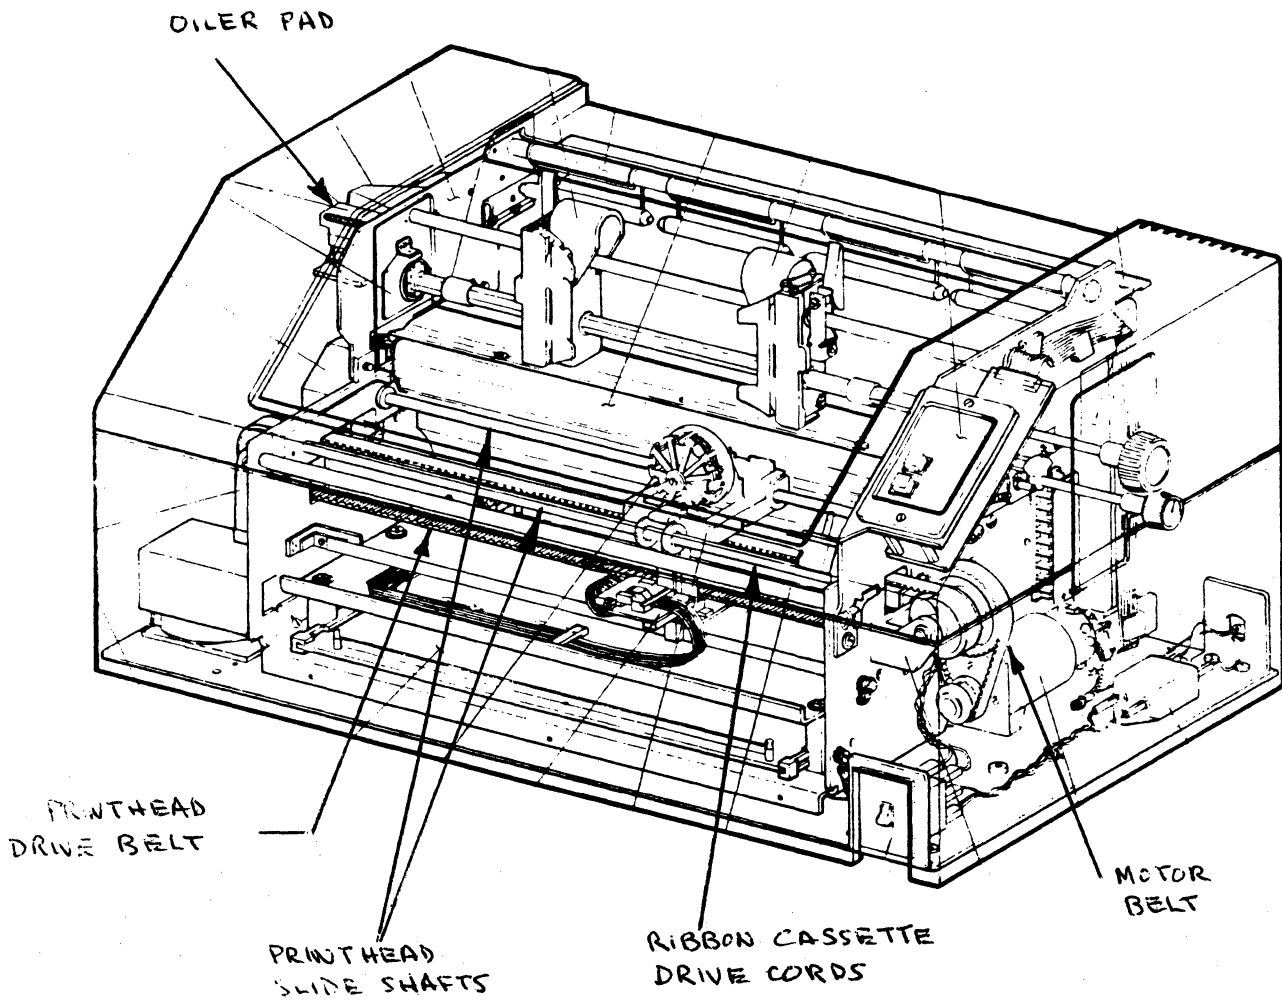

Figure A-1. Printer Check Items
- 2.1) Apply three or four drops of oil (CDC part number 95370201) in hole at top of oiler pad (figure A-1).